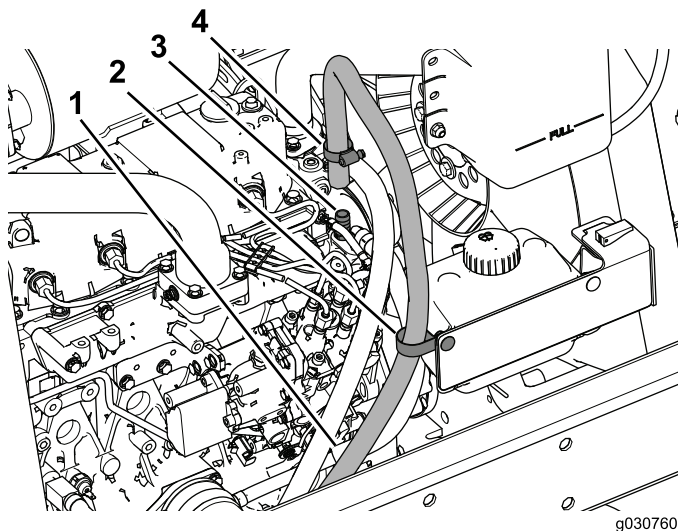

**Figure 39**
5. Slide the hose clamp over the supply hose and then insert the hose over the fitting (3/8 NPT x 0.625 barb) as shown in Figure 39.